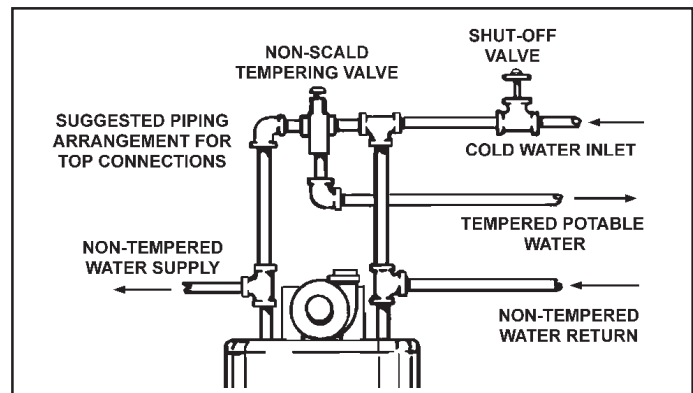

FIGURE 2.
4. When the system requires water for space heating at temperatures higher than required for domestic water purposes, a tempering valve must be installed. Please refer to Figure 2 for suggested piping arrangement.